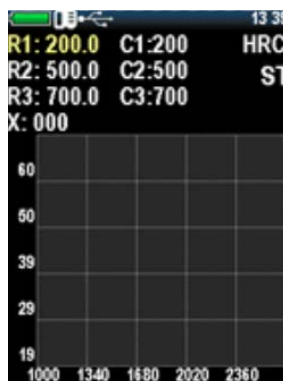

Figure 2.29 - Calibration table
1. Press <  > to select, user will see the table as in Figure 2.29. The device, while measuring, receives nominal codes. The purpose of calibration is to find the correlation between the code value and the hardness value (to create the function of dependence).